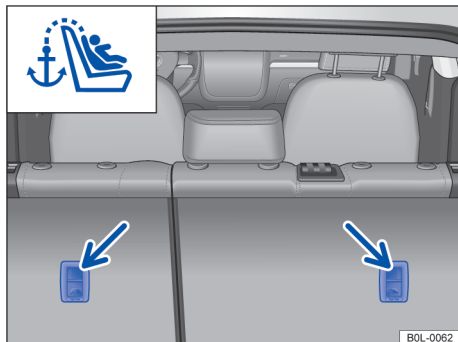

Fig. 38 A buckle on the backrest of the rear seat for attaching the top retainer strap
- Attach the hook for the top retainer strap to the retainer ring on the rear seat backrest of the luggage compartment → Fig. 38.